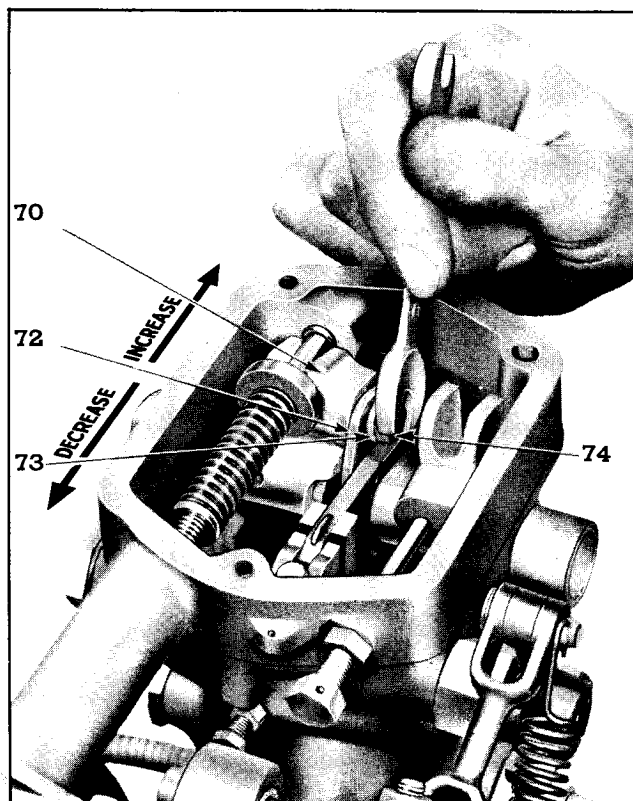

Fig. 15—Adjusting Speed Droop.
3. Loosen droop adjusting screw (74), shown in Fig. 15, and move bracket (72) so that screw is mid-way between ends of slot in bracket. Tighten screw.
7. Remove rated load, and note engine speed after speed stabilizes under no load. If droop is satisfactory, the engine speed will be approximately 3% to 5% higher than the full load speed. If engine speed is too high, stop engine and again loosen bolt (74), Fig. 15, and decrease droop by moving droop adjusting bracket (72) IN toward engine. To increase the droop, move droop adjusting bracket OUT, away from engine.